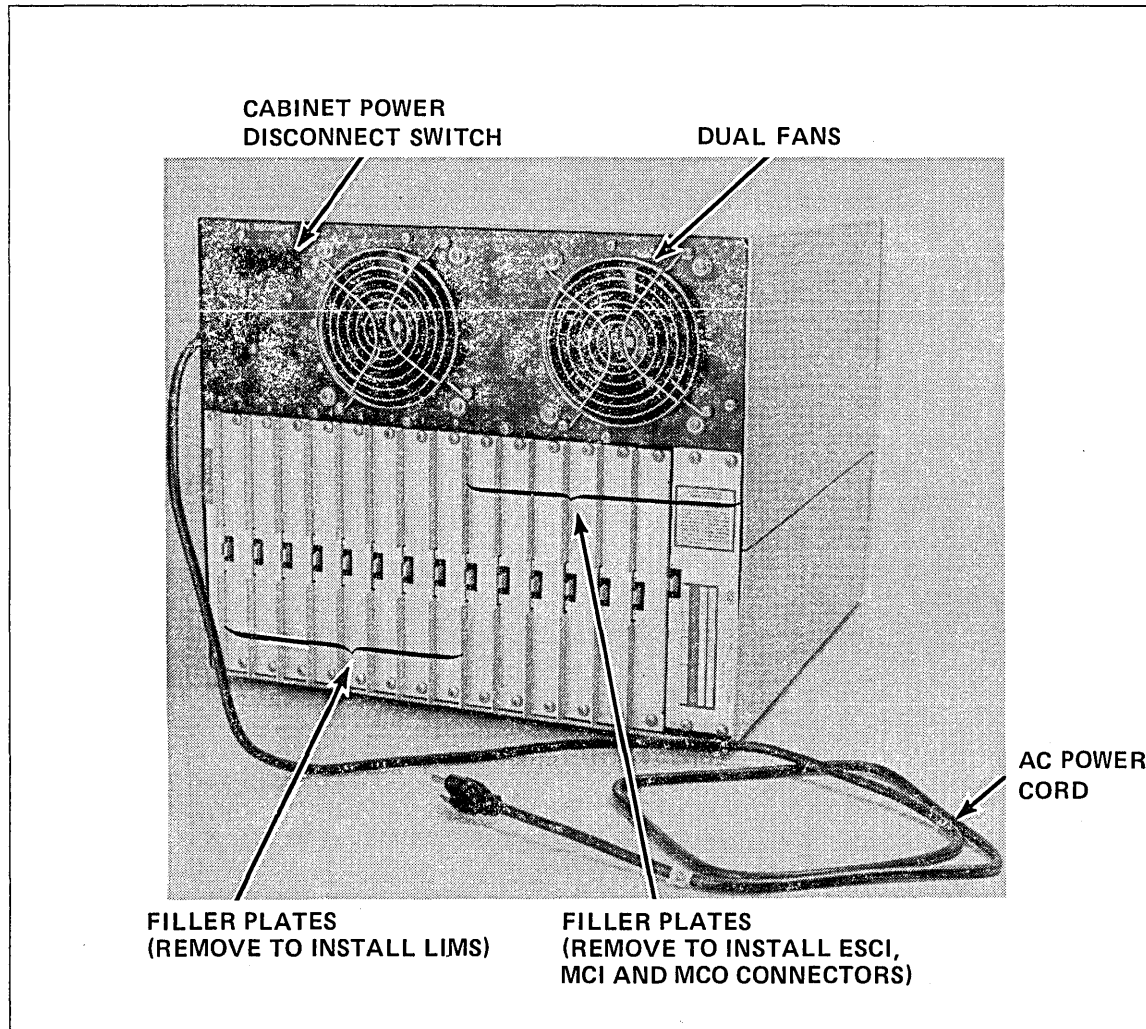

Figure 1-6. DI Cabinet Components - Back View
6. Refer to figure 1-6 to identify components on the back of the DI cabinet.